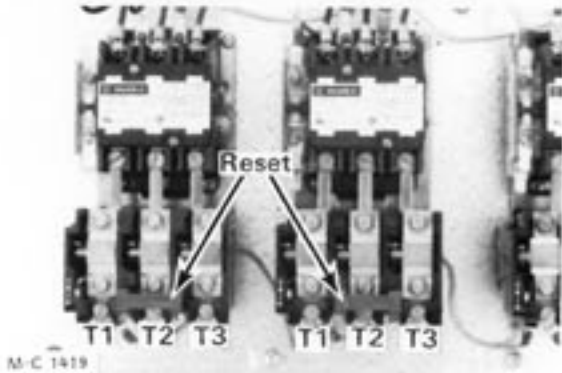

Figure 11 - Level and Unload Auger Magnetic Starters - 3 Phase
- A. **Three phase motors** - Move the wire from terminal T1 to T3 and T3 to T1 on the magnetic starter in the lower control cabinet, see Figure 11.